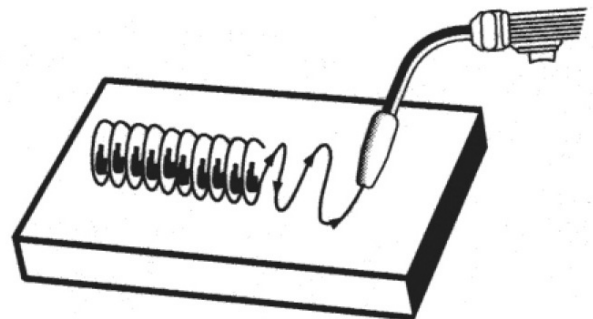

Figure 14. Weave Bead
2. The **WEAVE BEAD** (Figure 14) is used when you want to deposit metal over a wider space than would be possible with a stringer bead. It is made by weaving from side to side while moving with the gun. It is best to hesitate momentarily at each side before weaving back the other way.